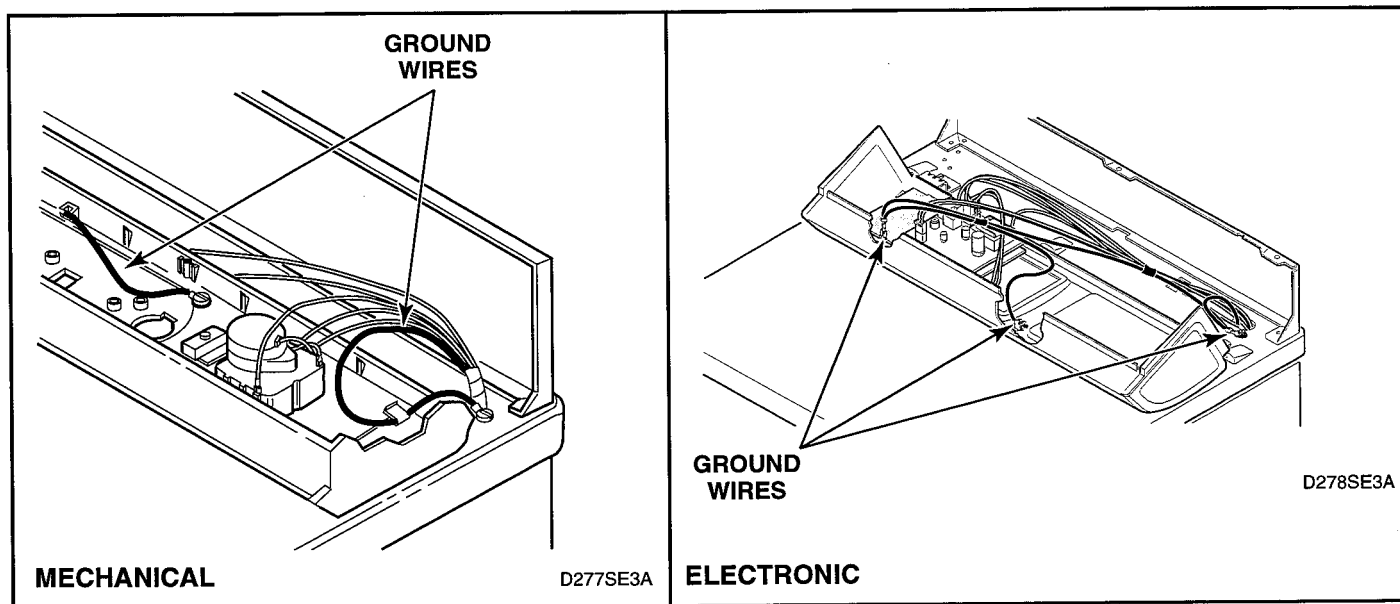

Figure 4-3
3. **GROUND WIRES FROM REAR BULKHEAD TO TIMER MOUNTING BRACKET AND TO DRYER CABINET TOP. GROUND WIRES FROM TIMER MOUNTING BRACKET TO GRAPHIC PANEL (Mechanical Timer Models Only – Figure 4-3).**
GROUND WIRES FROM REAR BULKHEAD TO DRYER CABINET TOP TO ELECTRONIC CONTROL AND TO GRAPHICS PANEL (Electronic Control Model Dryers – Figure 4-3).